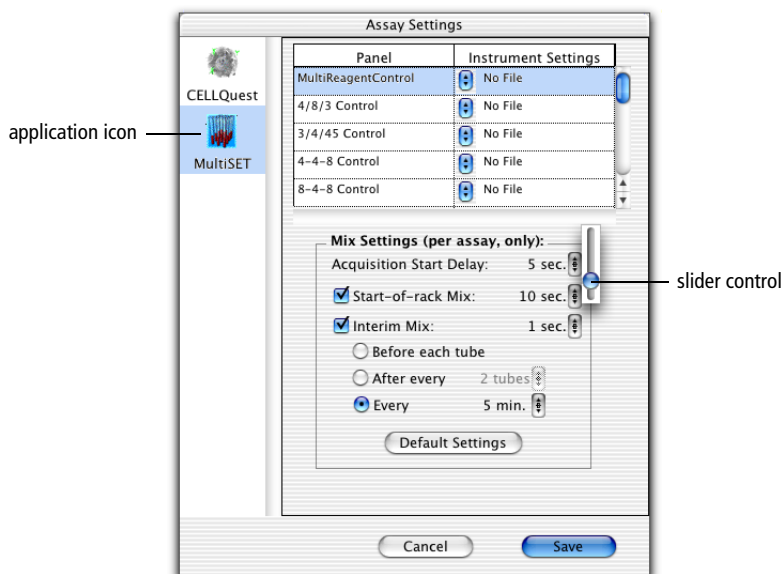

Figure 3-3 Assay Settings dialog
- 6 Click Assay Settings to access the Assay Settings dialog (Figure 3-3).
- Change the Acquisition Start Delay by clicking the arrows or using the slider control (Figure 3-3 on page 47). Acquisition Start Delay occurs after the tube is lifted and properly pressurized. It allows the flow rate to stabilize before events are saved.